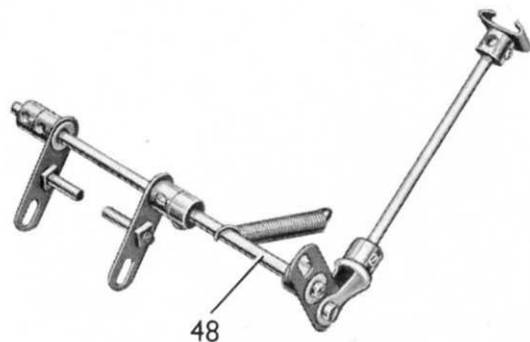

FIG. 8 The clutch pedal and release lever unit removed from the chassis
The clutch pedal is a Slide Piece on a  $4"$  Rod that passes through an Obtuse Angle Bracket bolted to one of the  $5\frac{1}{2}" \times 3\frac{1}{2}"$  Flat Plates of the chassis. The lower end of the Rod carries an End Bearing, and this pivots on a  $\frac{3}{8}"$  Bolt passed through a Double Arm Crank on a  $5"$  Rod (48) (Fig. 8). This Rod is held by Collars in Angle Brackets bolted to the Girders (18) of the engine unit, and it carries two Cranks fitted with Threaded Pins that engage the groove in the Socket Coupling (26).